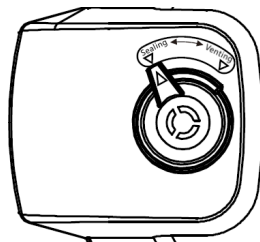

Figure 15
4. Set the pressure relief valve (3) to the "Sealing" position and make sure that the safety valve (4) drops.
5. When setting the pressure relief valve (3) to the "Sealing" or "Venting" position, align the mark on the pressure relief valve (3) with the arrow on the handle (1) as shown in Figure 15.